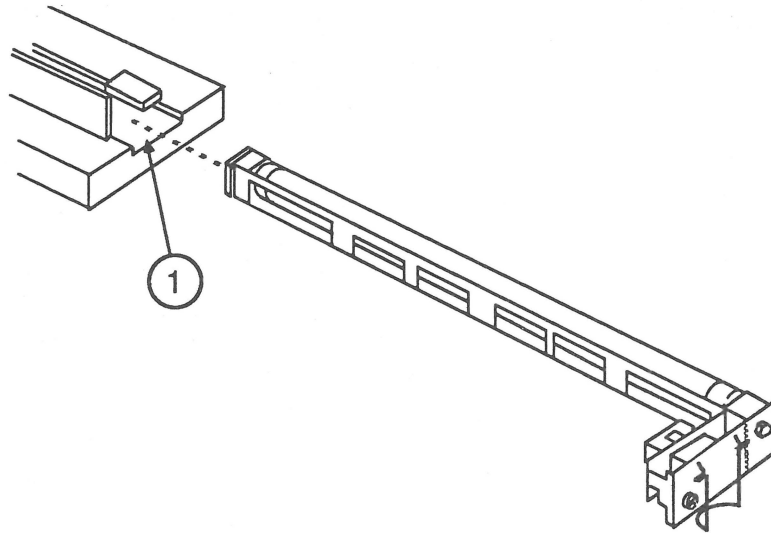

FIGURE 8
1. Insert the far end of the bulb assembly through the side door, making sure that the bottom frame of the bulb assembly fits into the groove slots (Figure 8, #1) on the optical block.